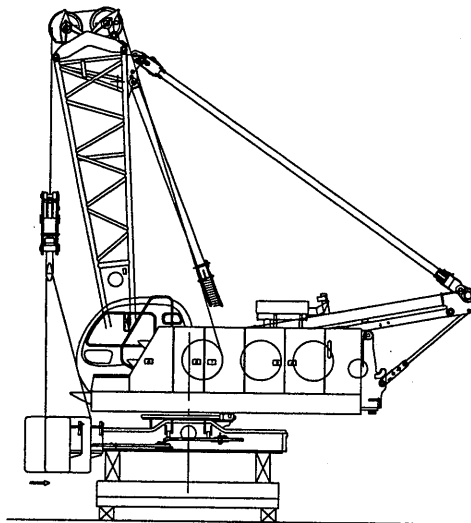

Fig. 11-35
- (8) With the crawler supported with the boom, retract the horizontal cylinder to retract the crawler to the working position. (Fig. 11-35)